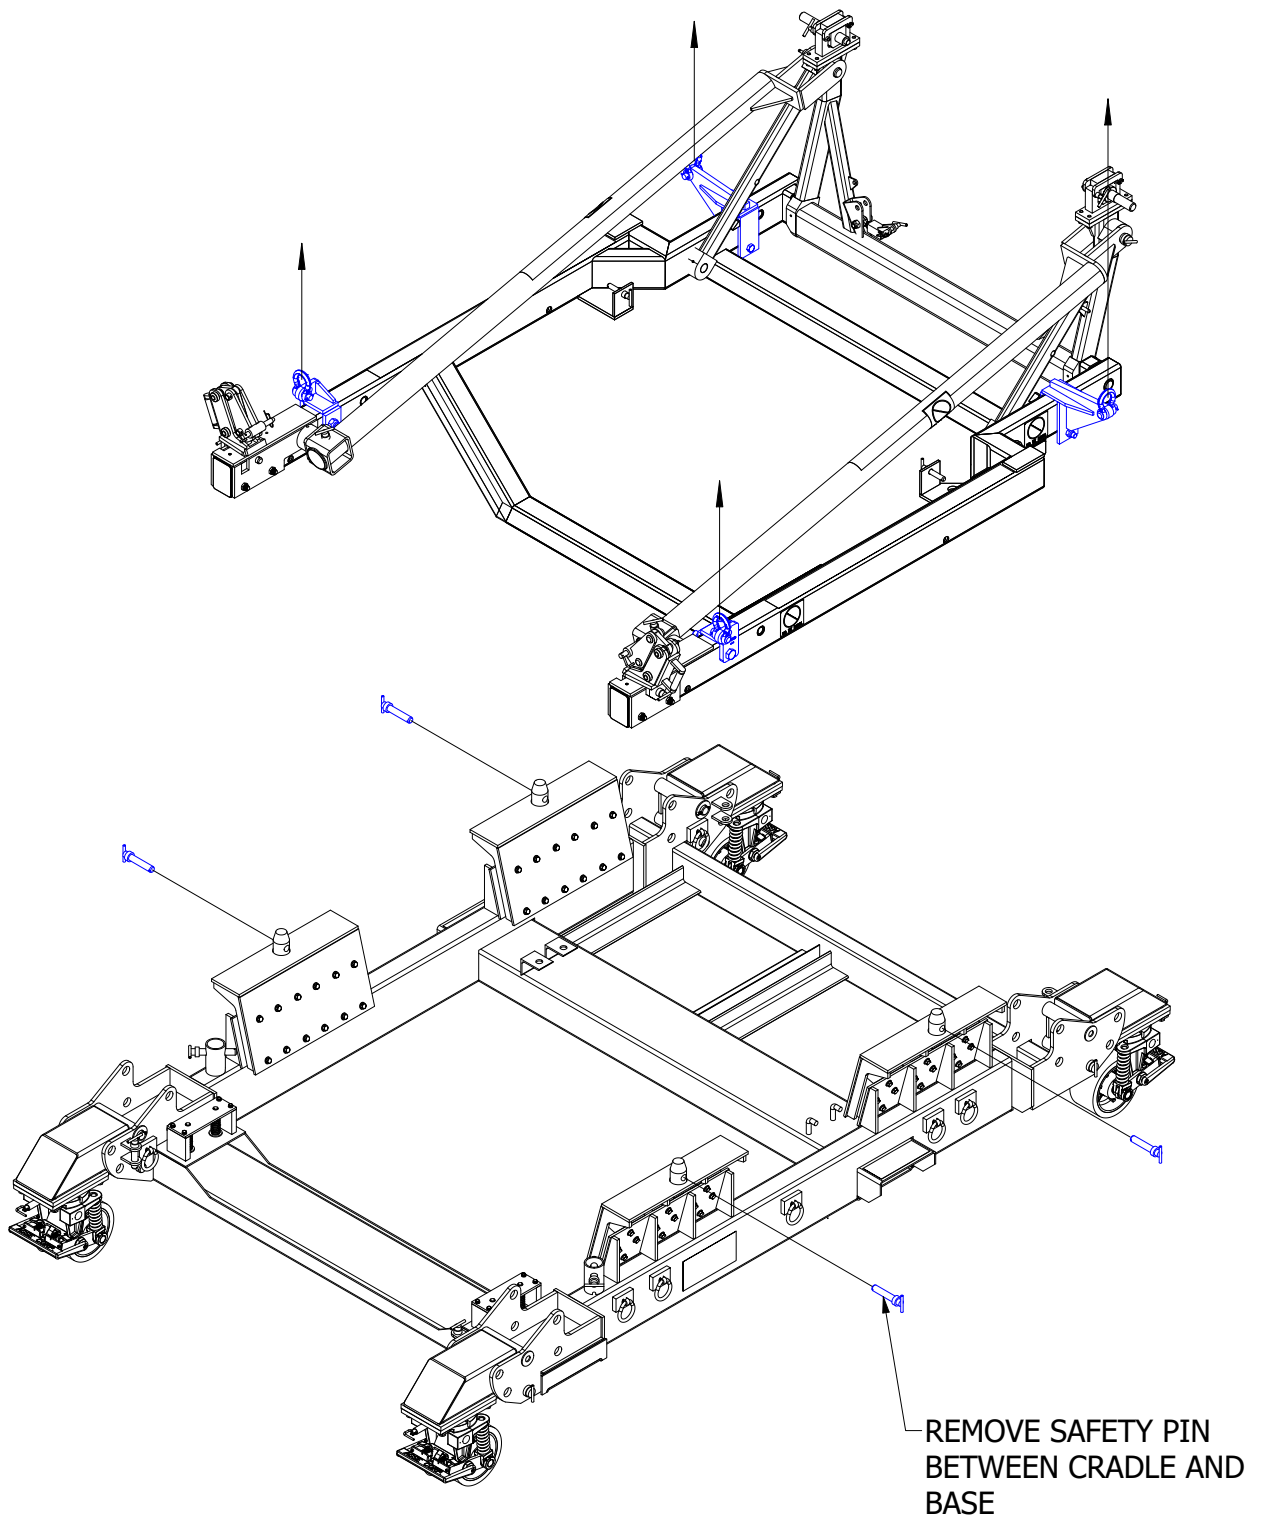

Figure 4.6-3 AM-1928-930 Bootstrap Kit for MD-11, 80C2 Engine
- 6). For the cradles AM-E1928-156-80C21-M and AM-1928-156-80A-B, install the AM-1928-930 bootstrap kits as shown in Figure 4.6-3.